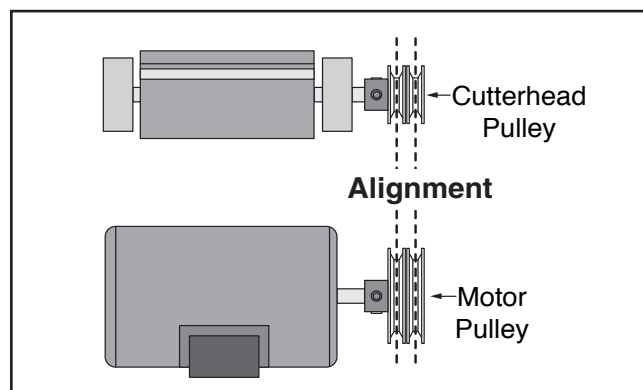

Figure 42. Pulleys aligned.
3. Visually check alignment of both pulleys to make sure they are aligned and V-belts are straight up and down, as shown in **Figure 42**).
7. Tighten motor mount fasteners. V-belts should be parallel and aligned, as illustrated in **Figure 42** on **Page 36**.